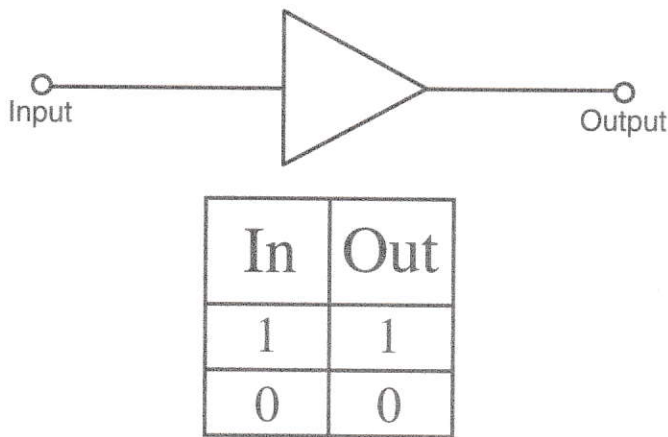

Figure 1 - YES Logic Symbol and Truth Table
Figure 1 shows the logic symbol and the truth table of the YES Logic Circuit. The YES Logic circuit has one input and one output. Because it has only one input it is called "logic circuit" instead of "logic gate". Logic gates have two or more inputs.
The truth table in figure 1 tells us that if we apply a High (1) to the input of the YES Logic Circuit, we will get a High (1) on the output. Also, it tells us that if we apply a Low (0) to the input, we get a Low (0) on the output. What could be more simple?